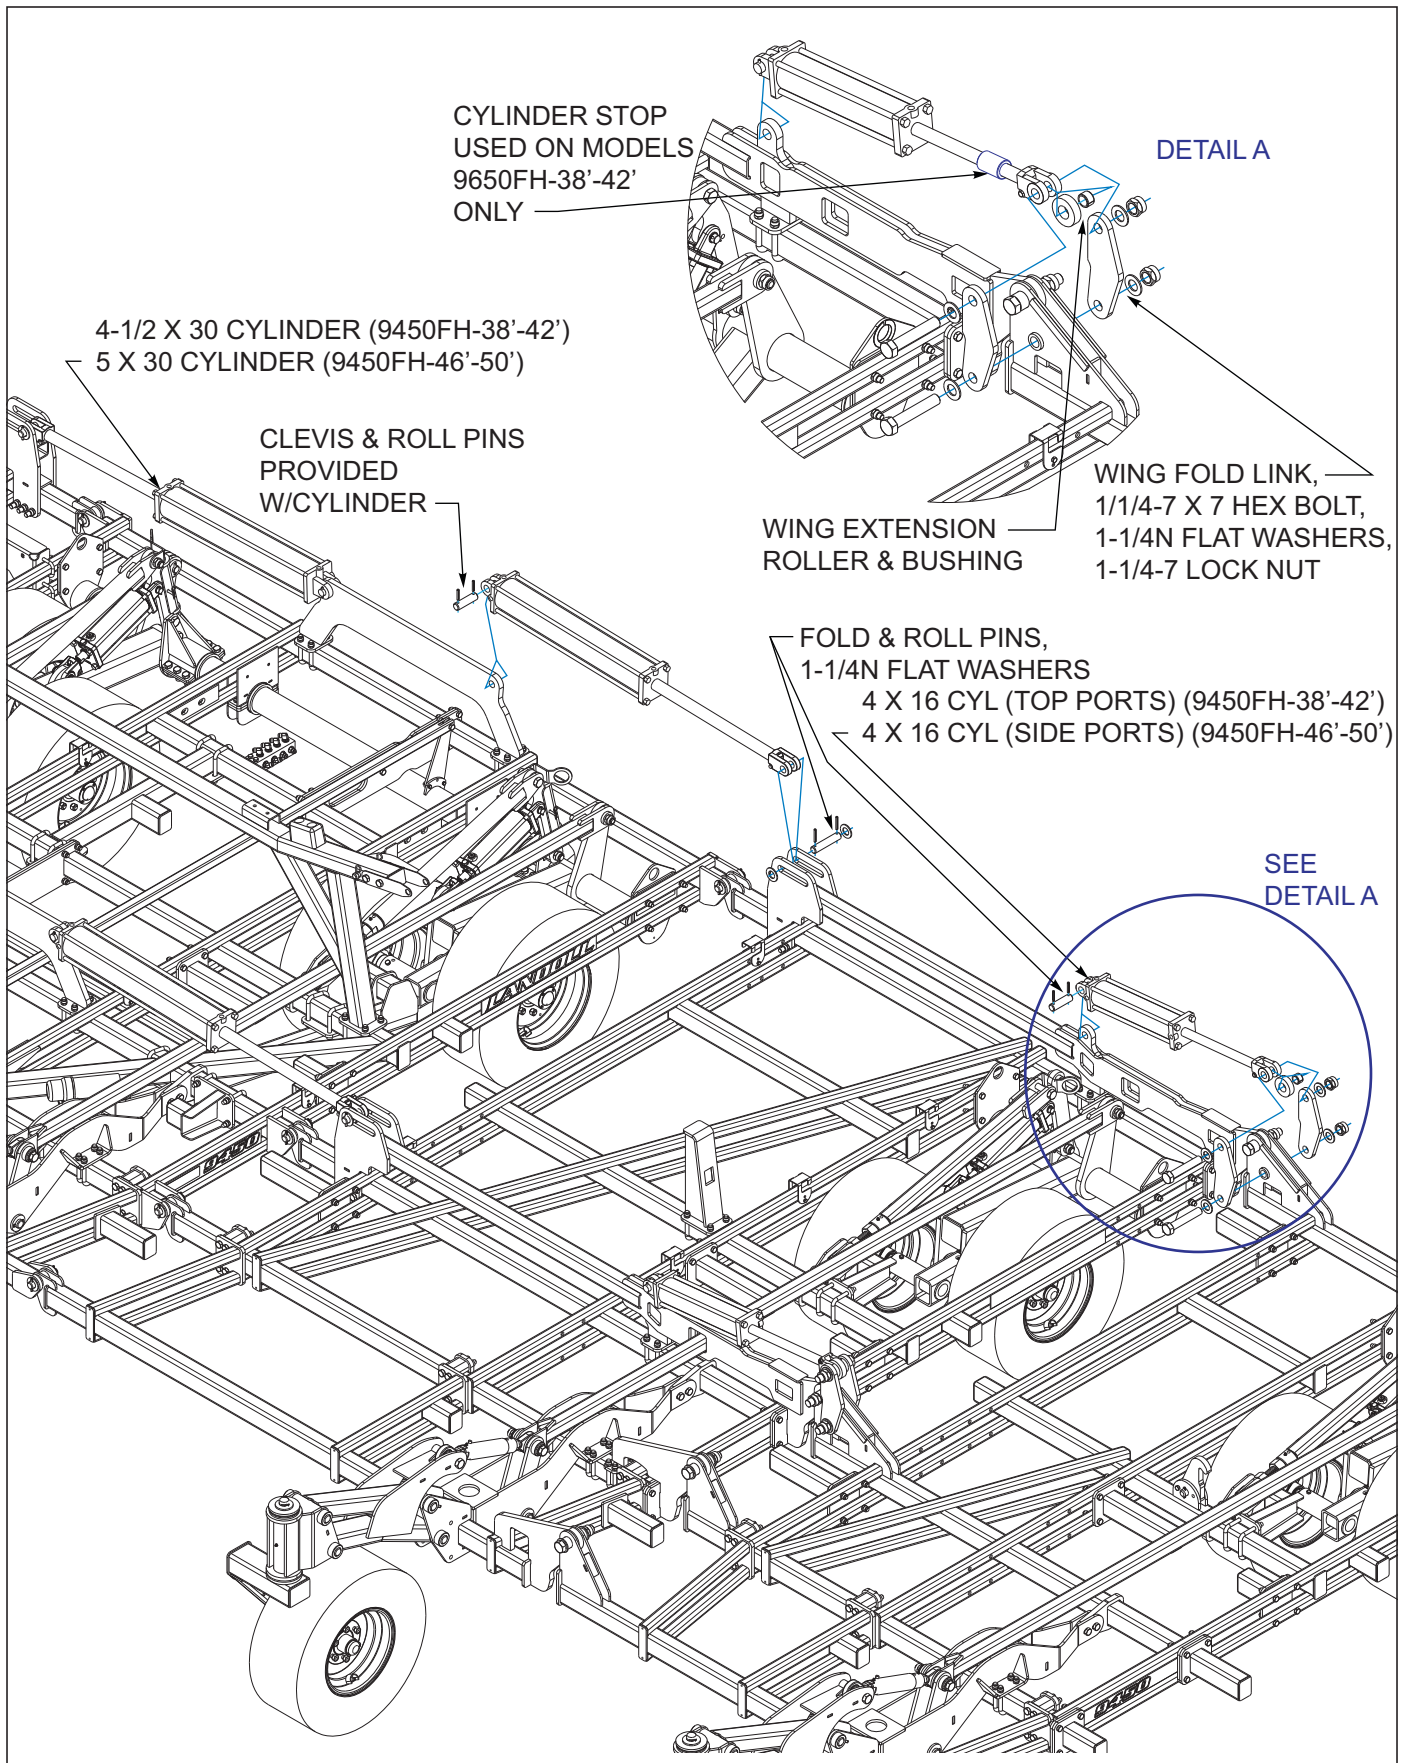

Figure 3-12: Fold Cylinder Installation
Refer to Figure 3-12 for hydraulic cylinder installation models 38' 9450FH38'/42'.
2. Using 1-1/4 x 6-1/8 fold pin, 1-1/4N flat washers, and 5/16 x 2-1/2 spring slotted pins, attach the rod end of the fold cylinders to the slotted mounts on the inner wing frames **See Figure 3-12**
3. Using a 1-1/4-7 x 7 hex head cap screw, flat washers, wing extension roller, and hex lock nut, attach the rod end of the 4 x 16 hydraulic cylinders to the fold links on the double hinge **See Figure 3-12**. Do not over-tighten screws. Fold links should pivot freely without binding or dragging. Tighten screws to remove excess slack, but still allow fold links to flex, and rotate bolt by hand.